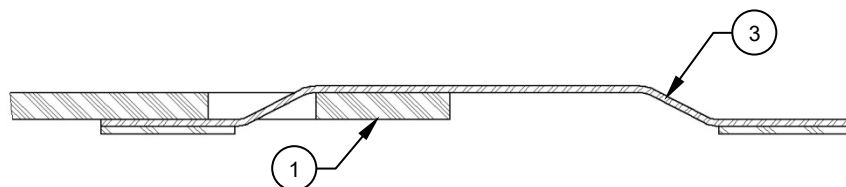

Figure 10
1. Remove the Retainer 2X Strip, Assy's (Item 3) by pulling the tabs out of the slots in the panel as shown. Reference Figures 10 & 11.